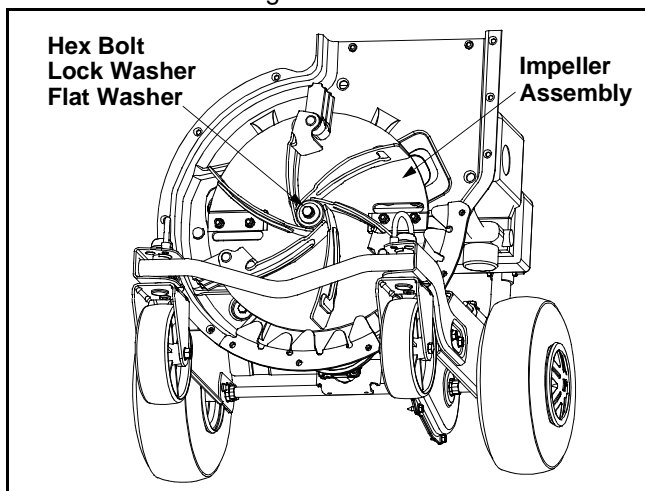

Figure 13
- Remove the hex bolt, lock washer, and flat washer that secures the impeller assembly to the crankshaft. See Figure 13.